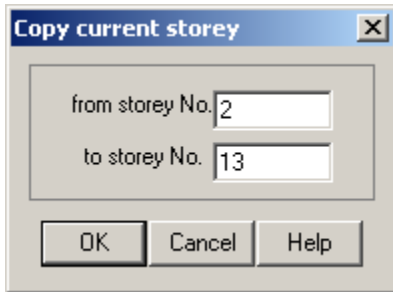

Figure 1.13.1 **Copy current storey** dialog box
- ⇒ In the **Copy current storey** dialog box (see Fig.1.13.1), define the following parameters: